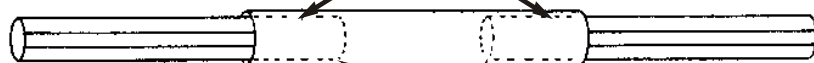

Fig. 3
- Twist, lock and hold EACH tube join before installing first screw (Fig. 3 & 4).